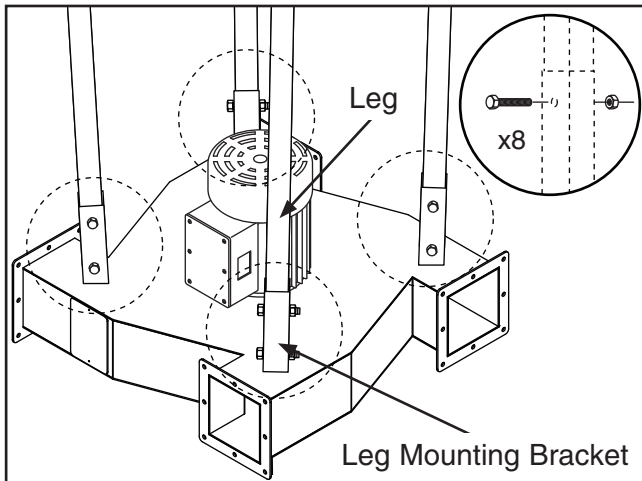

Figure 8. Attaching legs to impeller housing (Model G0673 shown).
2. Insert the legs into the leg mounting brackets and secure them with the eight $\frac{5}{16}$ "-18 x $2\frac{1}{2}$ " hex bolts and $\frac{5}{16}$ "-18 hex nuts, as shown in **Figure 8**. Do not yet fully tighten the nuts.